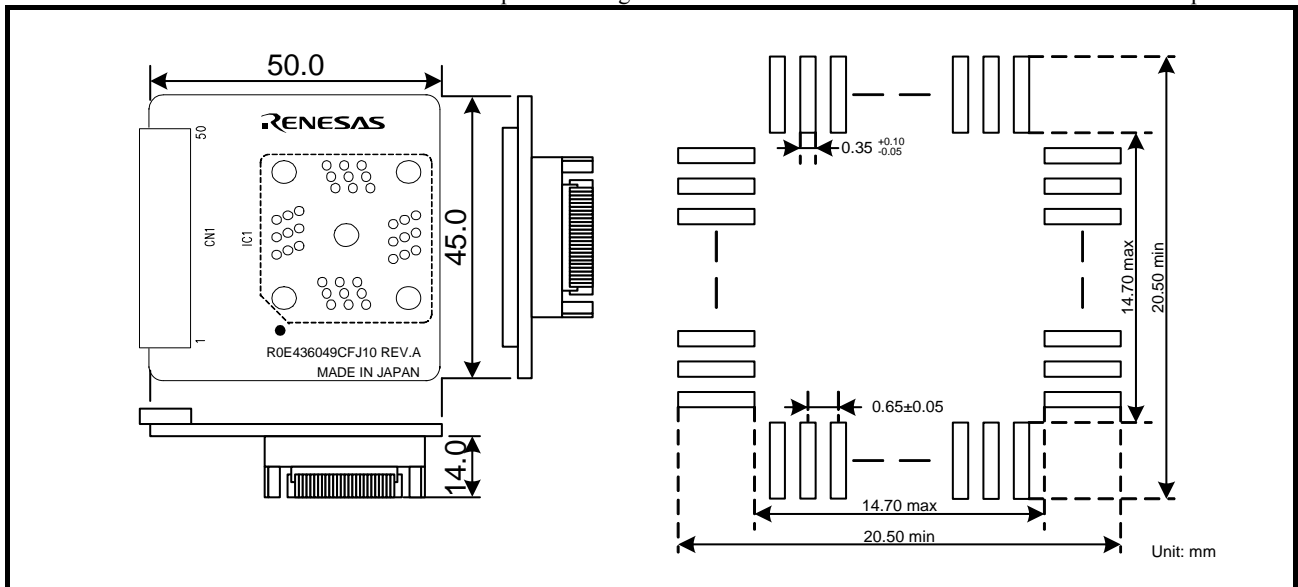

Figure 4 External dimensions and a recommended foot pattern of the R0E436049CFJ10
6. External Dimensions and a Recommended Foot Pattern (See Figure 4)
Note that the dimensions of the recommended foot pattern in Figure 4 are somewhat different from those of the actual foot pattern.